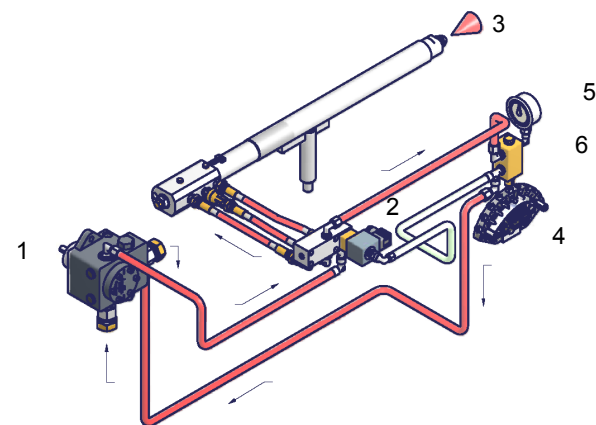

Fig. 7 - Low flame
4. VD can be mounted rotated by 180°, fig. 7.